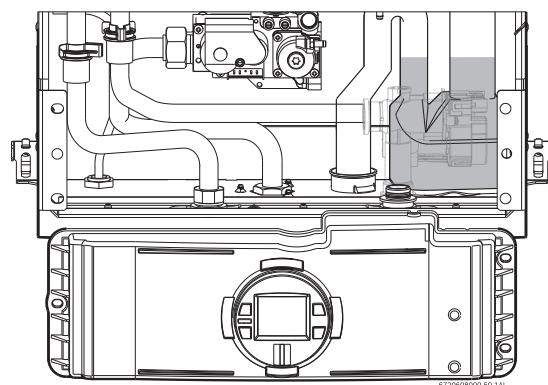

Fig. 34 Water level in condensate trap
- Put the control unit in service position by engaging its tabs with the holes in the bottom horizontal sheet metal, see Fig. 34.